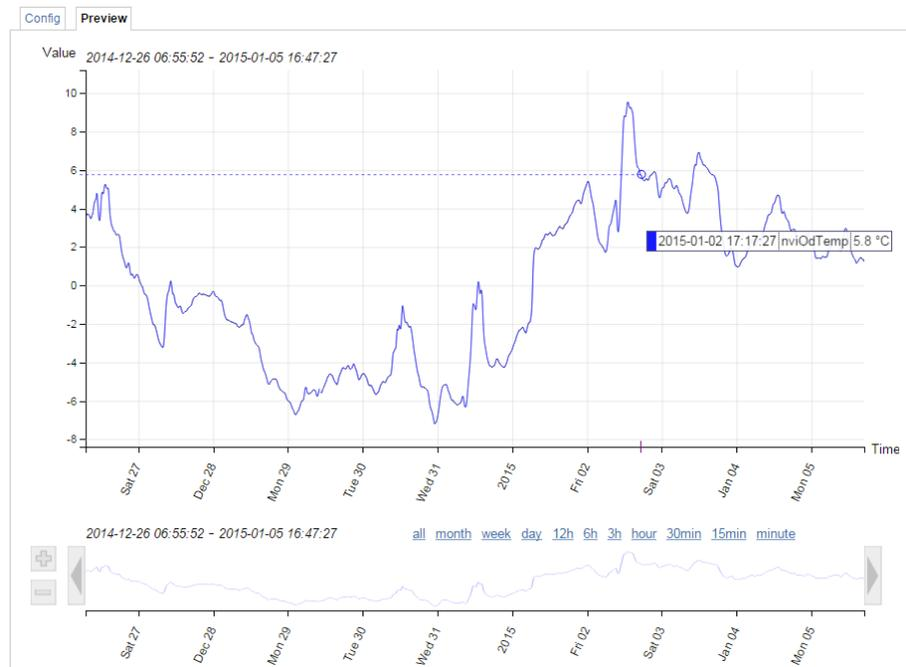

Figure 4: New trend chart on the Web UI
- The trend log configuration on the Web UI now also provides a preview tab, which shows a chart of the trend log data. The trend chart allows zoom, scrolling and hiding specific data curves, as shown in Figure 4.